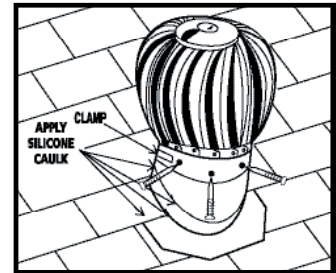

Figure 6
Attach Turbine Head... Set the turbine unit firmly on the crimped base collar. Attach with three (3) sheet metal screws (included) through holes in the turbine base ring. Apply clear silicone caulk, roofing cement, or urethane sealant between the turbine unit and stack and all around sheet metal screw heads. (Figure 6)
Important: Apply clear silicone caulk, roofing cement, or urethane sealant to exposed flashing edges and to the junction of the stack and flashing, the bead joining the upper and lower stack sections, the vertical seam in the upper and lower stack sections, and all exposed nail heads.* (Figure 6)